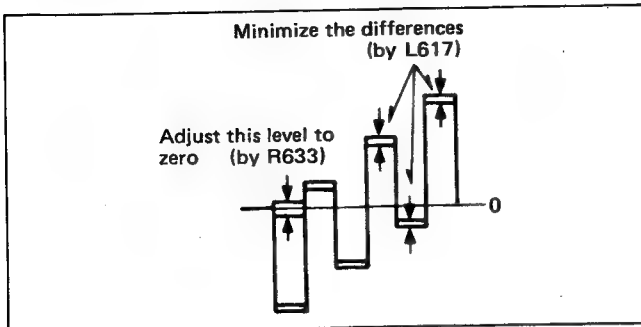

Fig. 29
- 4) Adjust Delay Line Adj. VR (R633) and Delay Line Matching Trans. (L617) to achieve waveform shown in Fig. 29.